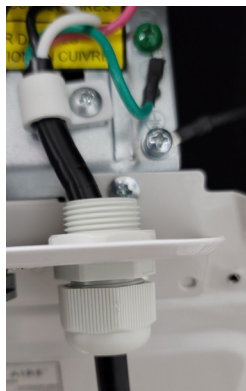

Figure 8.1
1. Connect the supplied gray waterproof cord connectors (see Figure 8.1 on page 36) to the conduit plate by removing the plastic nut on the waterproof cord connector and fasten it to the bottom side of the conduit plate.